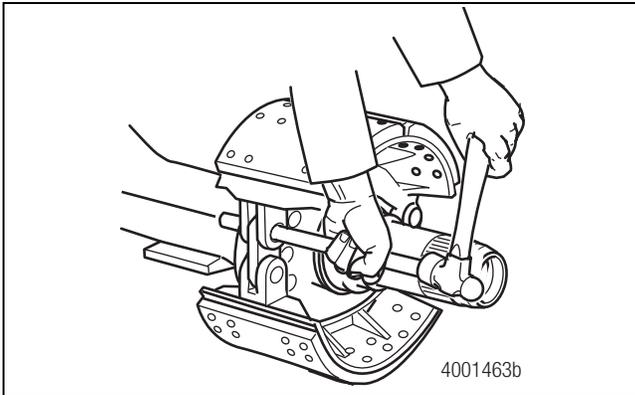

Figure 4.3
3. Use a brass drift to remove the anchor pins. Figure 4.3.